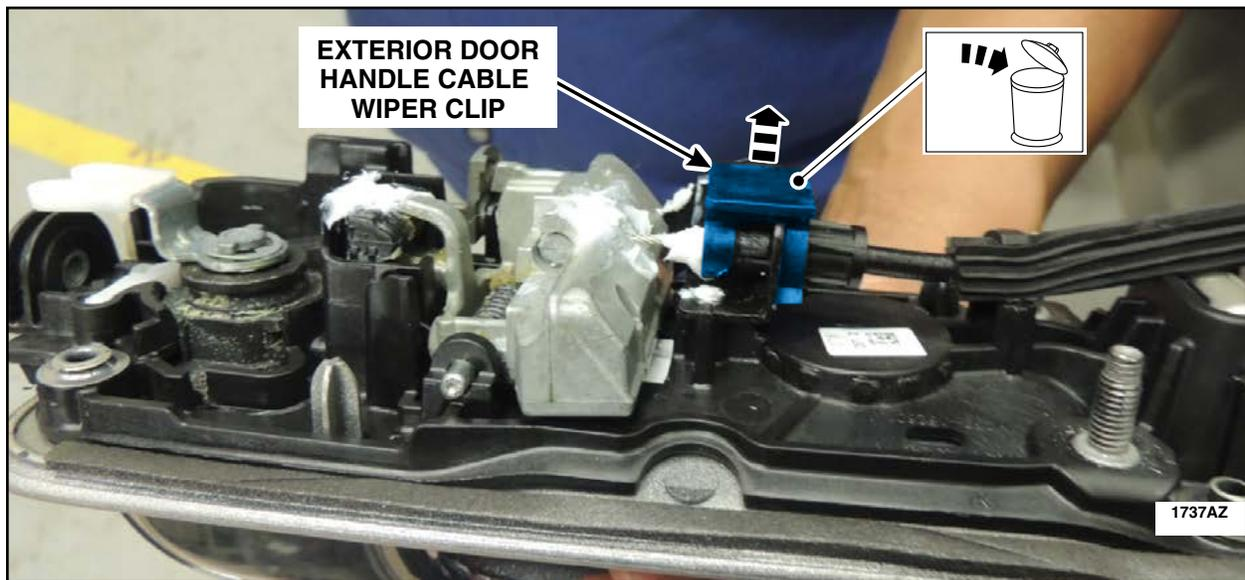

FIGURE 14
2. If a cable wiper clip is present on the exterior door handle cable end, remove and discard the cable wiper clip. See Figure 14.